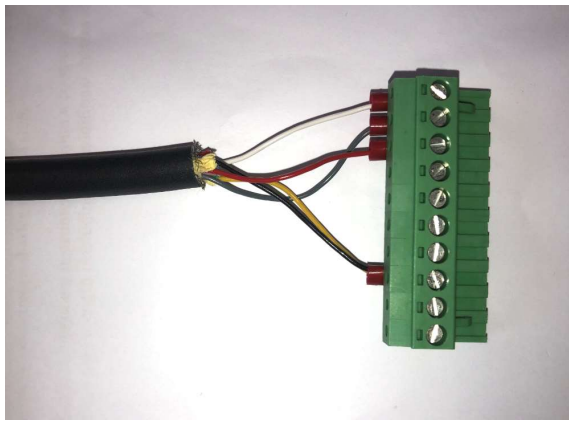

Figure 48 - Cables connected to the terminal block.
4. Strip each individual cable (it is highly recommended to use cable ferrules) and connect each cable to the pluggable terminal block that was supplied with the instrument. The order of connection is (Seen from the right, please also see Figure 48 for reference)